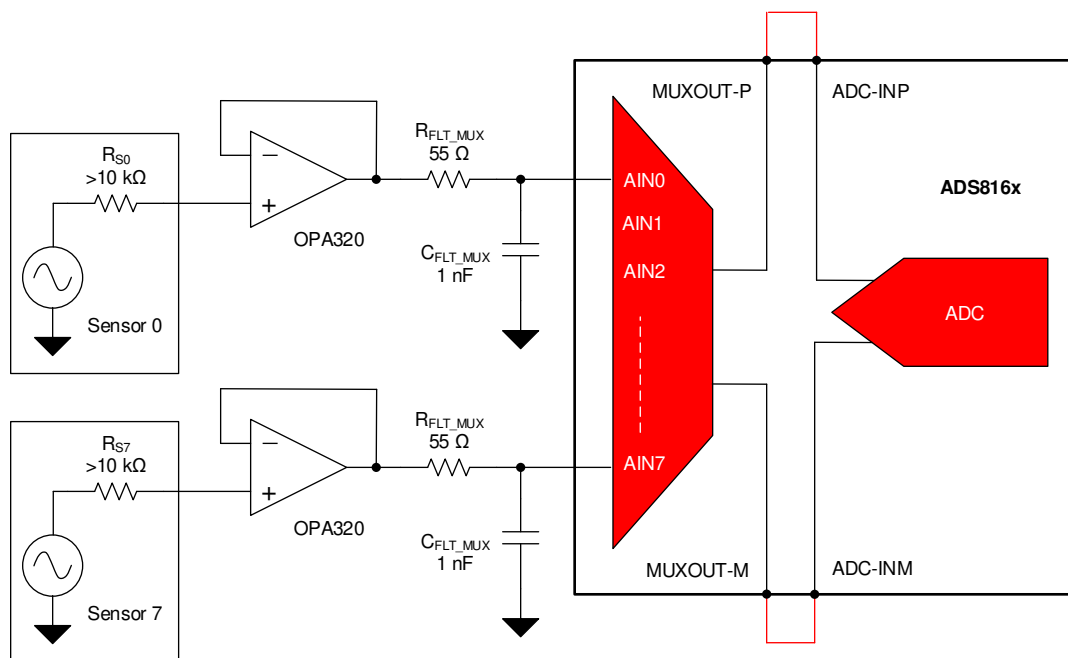

Figure 100. High Output Impedance Sensor Interface
In some applications, such as temperature sensing, the sensor output impedance can be greater than 10 kΩ. When scanning the multiplexer channels at high throughput, the relatively higher driving impedance results in a settling error. In such cases, Figure 100 shows that the multiplexer inputs can be driven using an amplifier. The multiplexer outputs can be connected to the ADC inputs directly. For best distortion performance, an amplifier can be used between the multiplexer and the ADC as described in the Selecting an ADC Input Buffer section.
- Select an input amplifier for rapid settling when the multiplexer switches channels. This selection is covered in the Multiplexer Input Connection section. The OPA320 buffer and associated RC filter illustrated in Figure 100 meet these requirements.